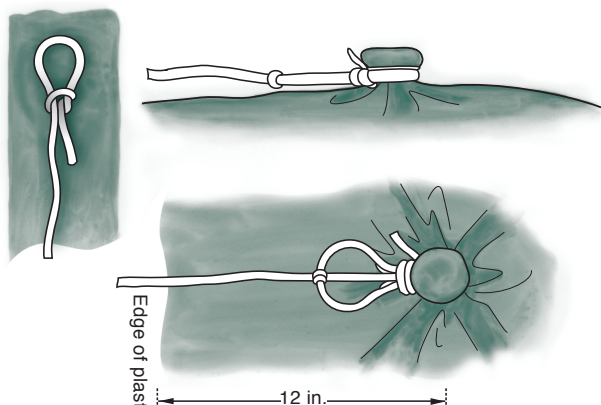

Figure 11: Plastic Tie-Down Buttons
Team 3-Use tie-down button and twine to secure the plastic to slope. Twine is tie off to the stakes using a minimum 250 lb. tensile strength twine. **(See Figure 11 on how to secure tie-down button to plastic).**
- Extend twine through bottom of large end of frame, tie a half-hitch knot around the end, and secure twine to stake (see Figure 11).